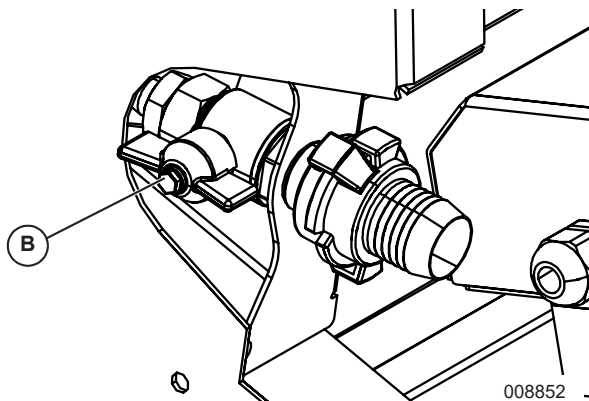

Figure 3-2. Starting the Unit
2. See Figure 3-2. Open valve (B).